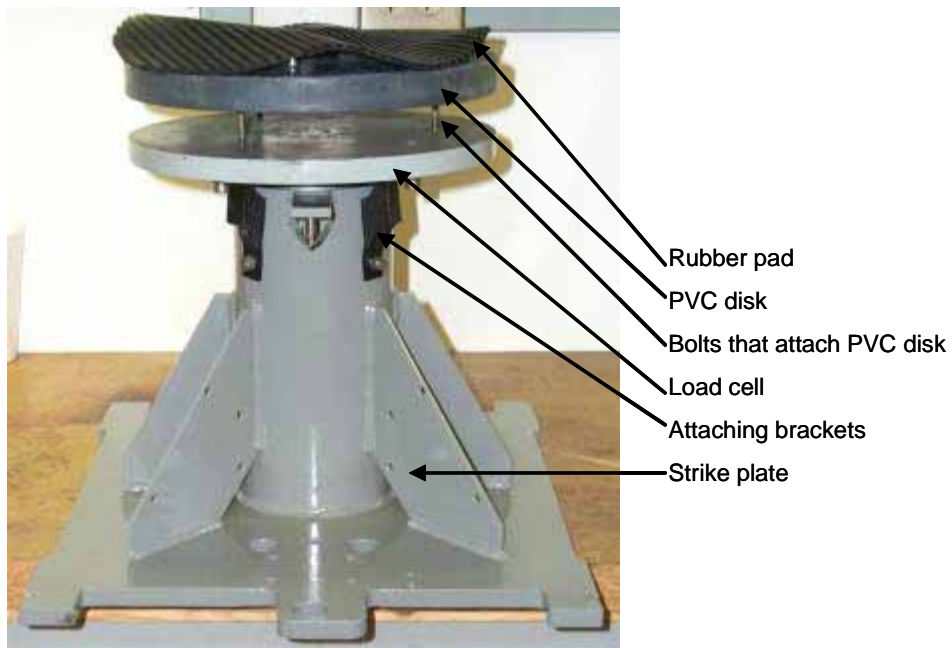
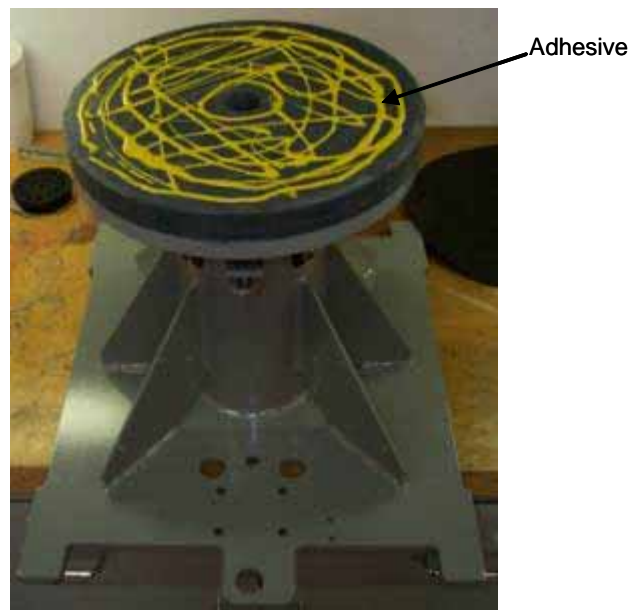

Figure 97. Strike plate with attached load cell and pad (shown inverted).
Figure 98. Adhesive applied to PVC disk.
4. Assemble the rubber pad and PVC disk before installing them on the load cell (figure 97). Use a strong adhesive to secure the rubber pad to the PVC disk before screwing the PVC disk to the load cell. Secure the PVC disk and rubber pad to the bottom of the load cell (figure 98).